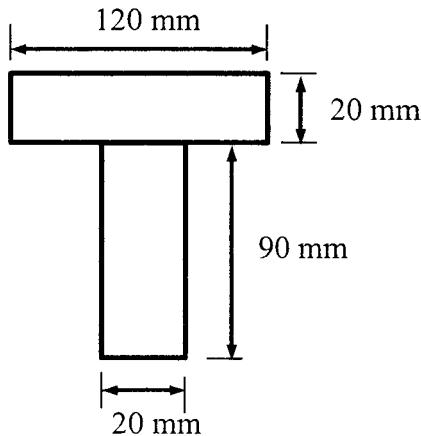

Figure Q3(b) / Rajah S3(b)
- (b) A simply supported beam with a cross-section is shown in **Figure Q3(b)** below. Determine the value of Neutral Axis and Second Moment Area of the beam.